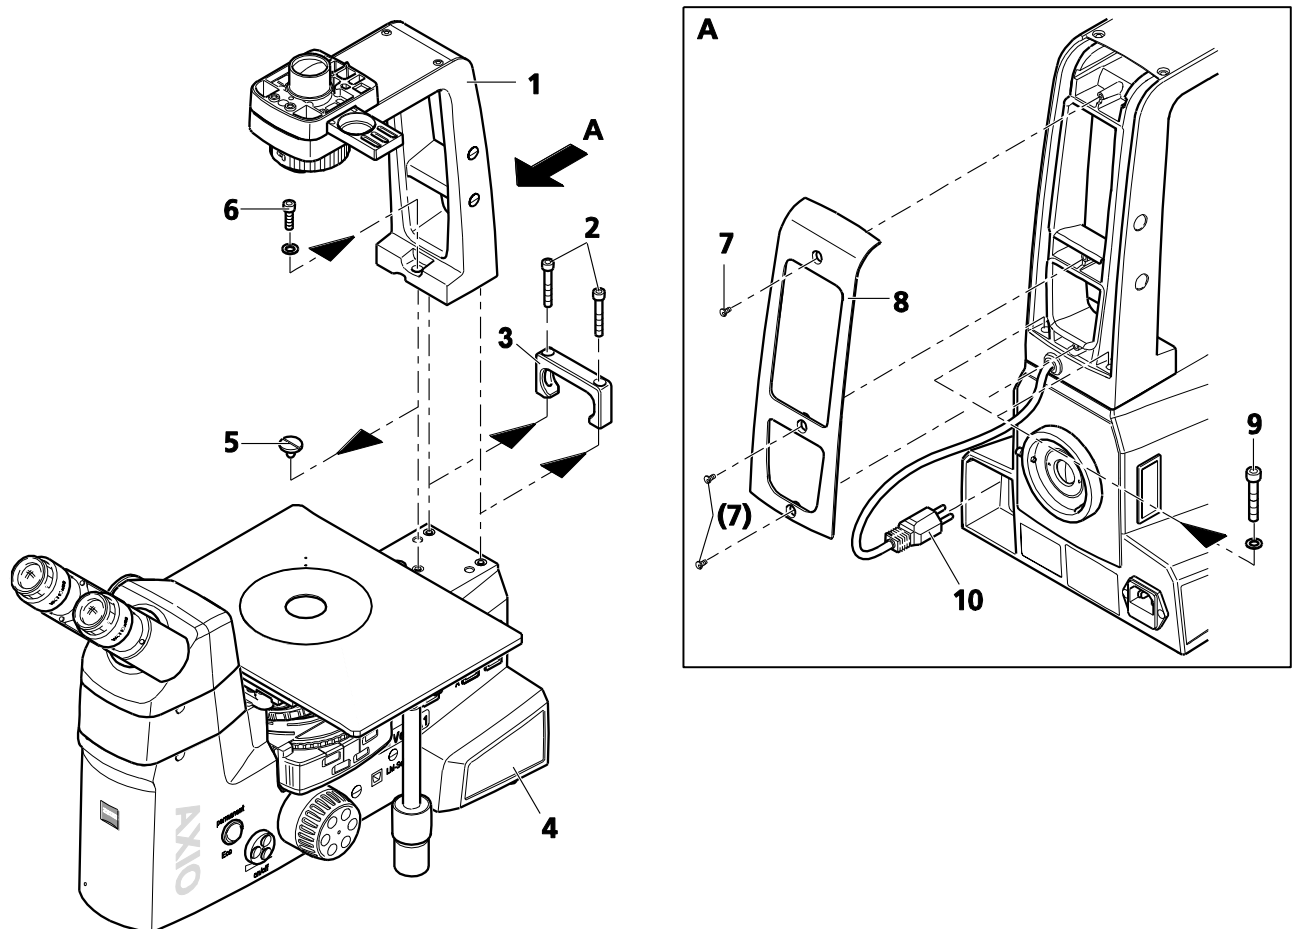

Fig. 3-36 Mounting the Carrier for Transmitted Light Illumination
Use ball-headed screwdriver SW 5 to remove the two screws (Fig. 3-36/2) on the carrying handle (Fig. 3-36/3) and then take off the carrying handle.
Remove the cover screw (Fig. 3-36/5) from the tapped hole.
Take the carrier (Fig. 3-36/1) out of the packaging.
Turn out the three Phillips screws (Fig. 3-36/7) of the cover at the back of the carrier (Fig. 3-36/8) and remove the cover from the carrier.
Set the carrier onto the stand (Fig. 3-36/4) and loosely attach it with the three screws (Fig. 3-36/6 and 9) and washers, using the special screwdriver supplied.
Insert the three-pin plug (Fig. 3-36/10) of the transmitted light illuminator into the upper socket (TL) at the back of the stand.